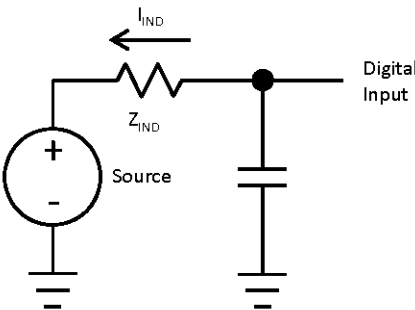

Figure 2. 5 V Tolerant Input  $I_{IND}$  Parameter
5. Examples calculated using  $V_{IL}$  relation,  $V_{DD}$ , and max  $I_{IND}$ :  $Z_{IND}=V_{IL}/I_{IND}$ . This is the impedance needed to pull a high signal to a level below  $V_{IL}$  due to leakage when  $V_{IL} < V_{IN} < V_{DD}$ . These examples assume signal source low = 0 V. See Figure 2.